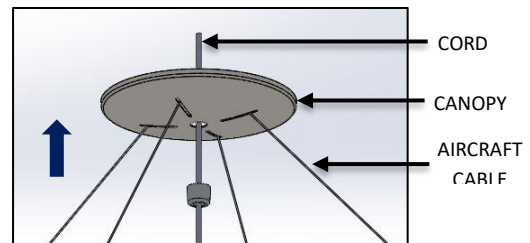

FIG. 17 – CANOPY PLATE INSTALLATION
2. Pass the CANOPY through the AIRCRAFT CABLE and CORD in such a way that the AIRCRAFT CABLE goes through the oblong slot holes and CORD passes through the center hole on the CANOPY as shown in FIG. 17 below.